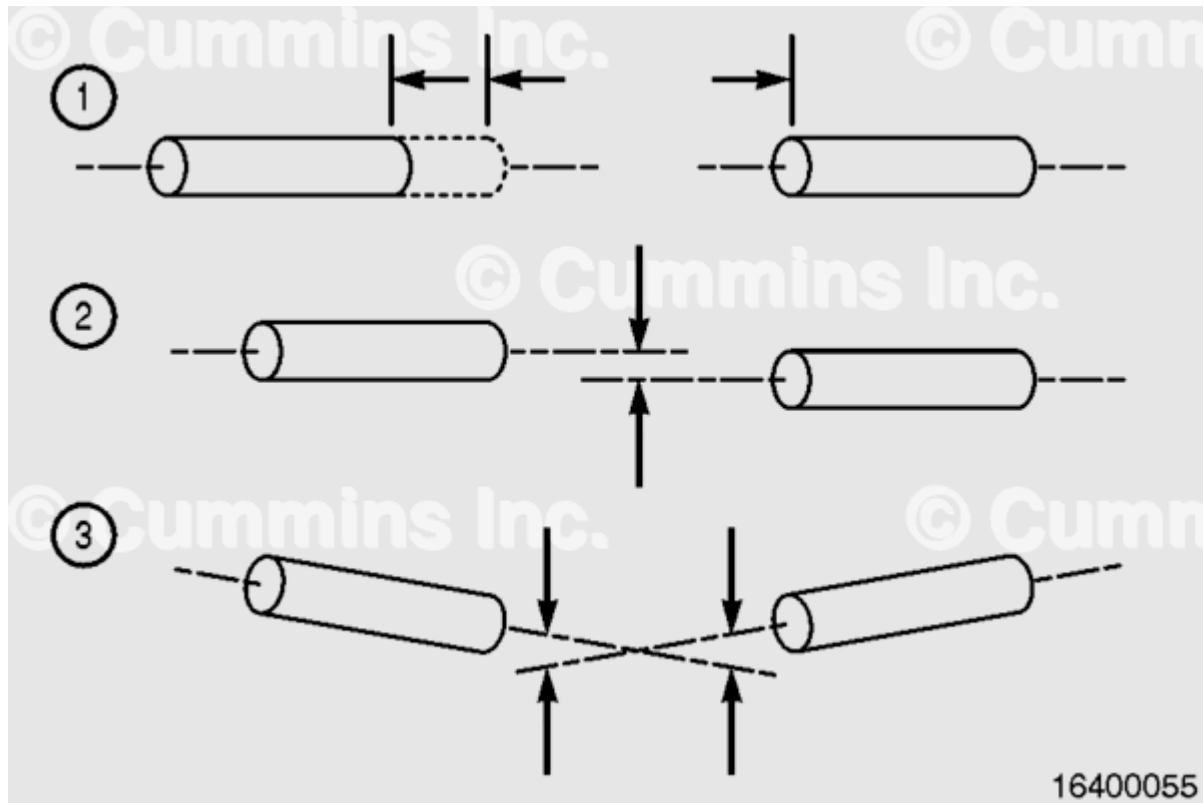

Figure 1: Types of Misalignment: Axial (1); Radial (2); Angular (3)
- The three types of misalignment are axial, radial, and angular. See Figure 1 below.